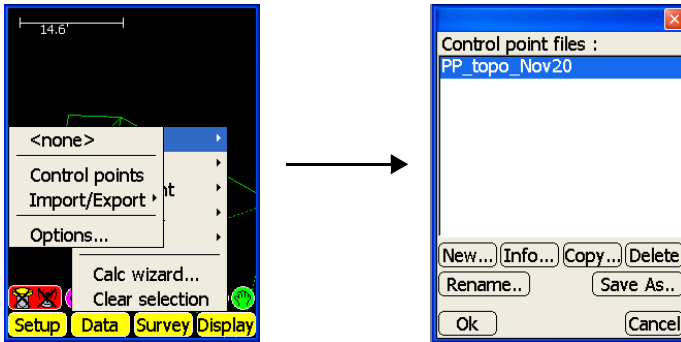

Figure 4-10. Select Control Point File
4. Press **Data ▶ Control**, select the correct Control Point file for the jobsite, and press **Ok** (Figure 4-10). See “Control Point Files” on page 2-2 for more information.